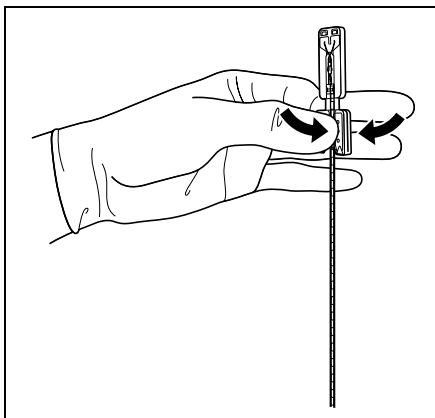

Figure 3.6
4. Hold the coil sheath in position by pinching the grip of the cartridge. At this time, confirm that the coil sheath can be suspended (see Figure 3.6).